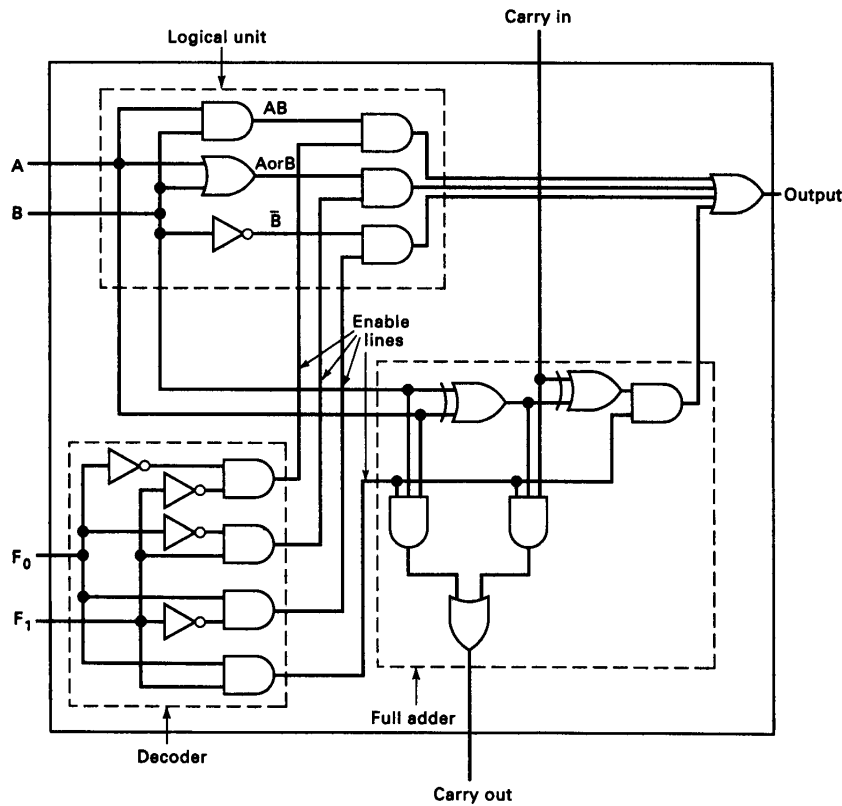

Figure 1: 1-bit ALU
- (1) 16 bits;
- (2) 32 bits;
- (3) 48 bits;
- (4) 64 bits;
8. Redesign the 1-bit ALU in Figure 1 below so that the functions performed, as specified by the 2-bit control inputs  $F_1F_0$  are those shown in the following table: